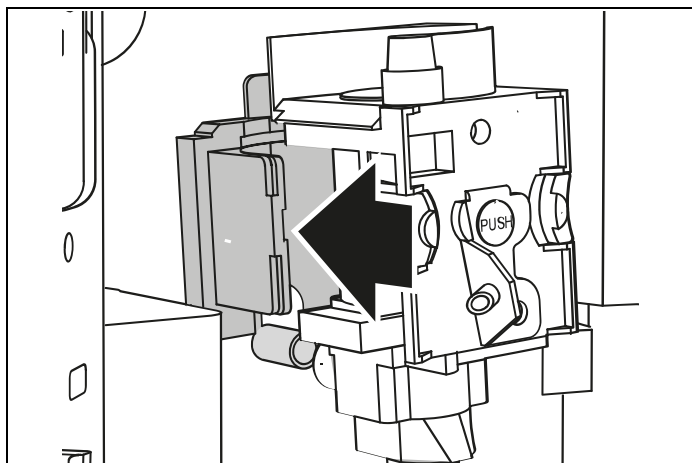

Fig. 49
- 2) After cleaning, replace the infuser (A5) by sliding it onto the internal support and pin at the bottom, then push the PUSH symbol fully in until it clicks into place (Fig. 49).